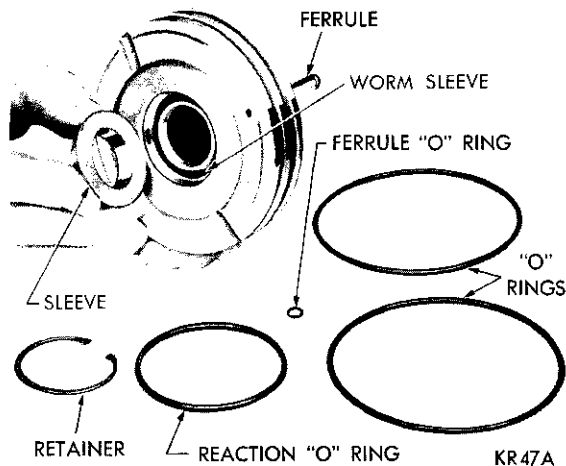

Fig. 13—Removing Cylinder Head Seal
(31) Inspect the wormshaft seal in the cylinder head counterbore for possible damage; replace the cylinder head seal if necessary (Fig. 13).
(32) Inspect the oil passage in the ferrule for obstruction and cylinder head lands for burrs, then lubricate the two large "O" rings and install in the grooves on the cylinder head.
(33) Install the cylinder head oil seal, back-up ring and retainer (if removed). Make sure the retainer is seated in the groove.
(34) Install the lower reaction seal in the cylinder head groove.